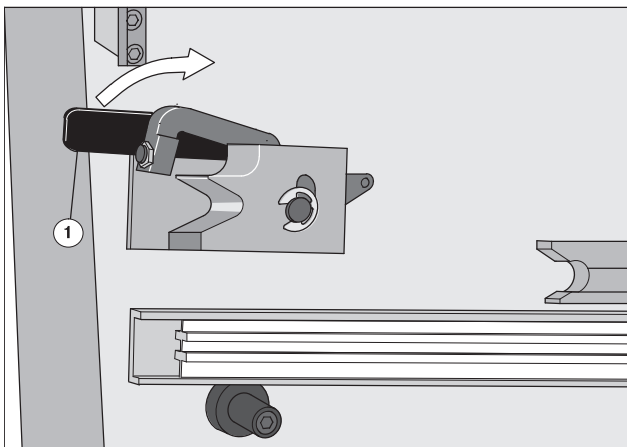

Fig. 65 The locking mechanism of the plug-in numbering unit
8. Press the locking lever on D.S. (Fig. 65/1) and O.S. up to the stop in the direction of the feeder.